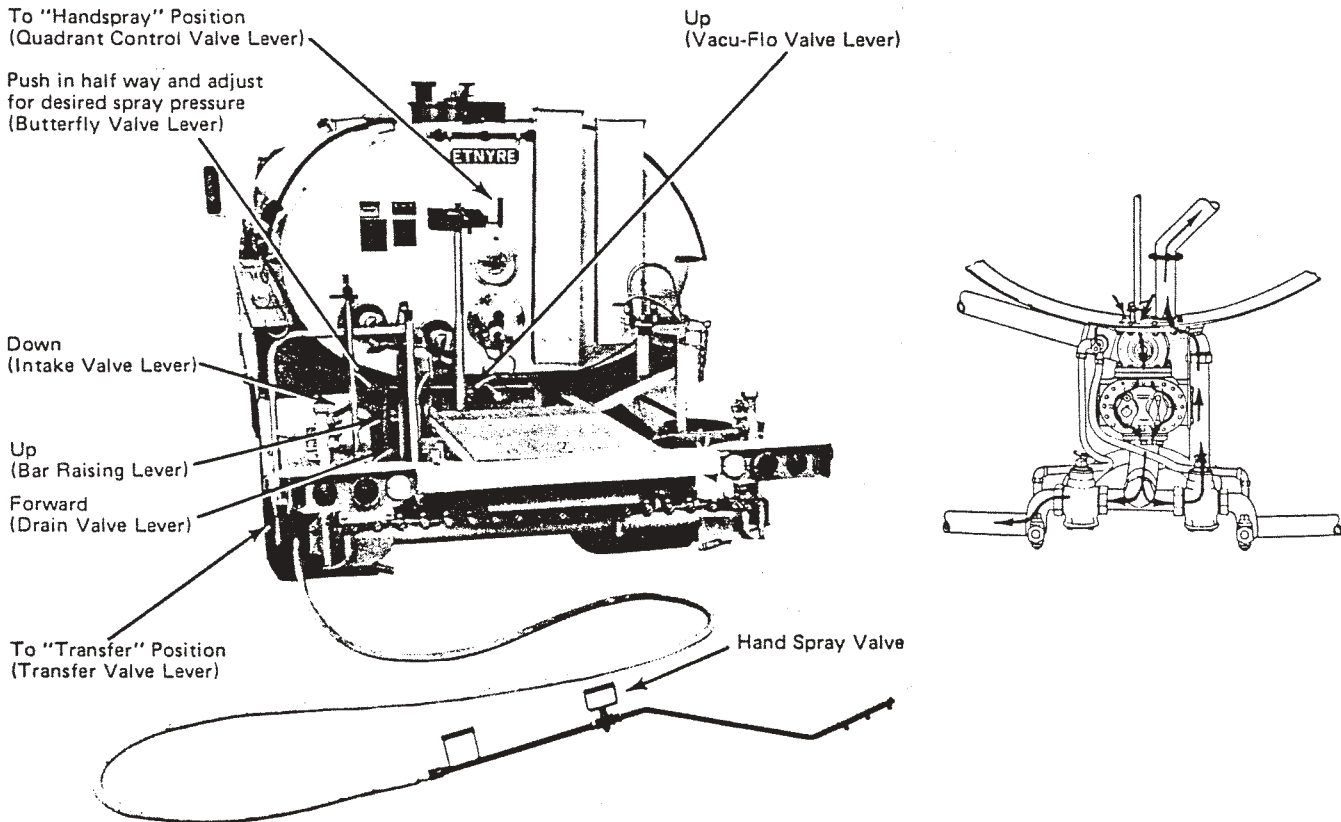

Figure 25. Valve Settings For Hand Spraying and Pump-Off
1. Set the operating valves and levers as shown in Figure 25.